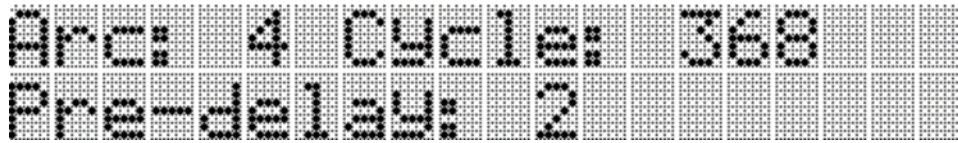

Figure 3.4 LCD system configuration screen
- 3.3.1. After a valid password is entered, the LCD screen shows the system configuration screen. See Figure 3.4.